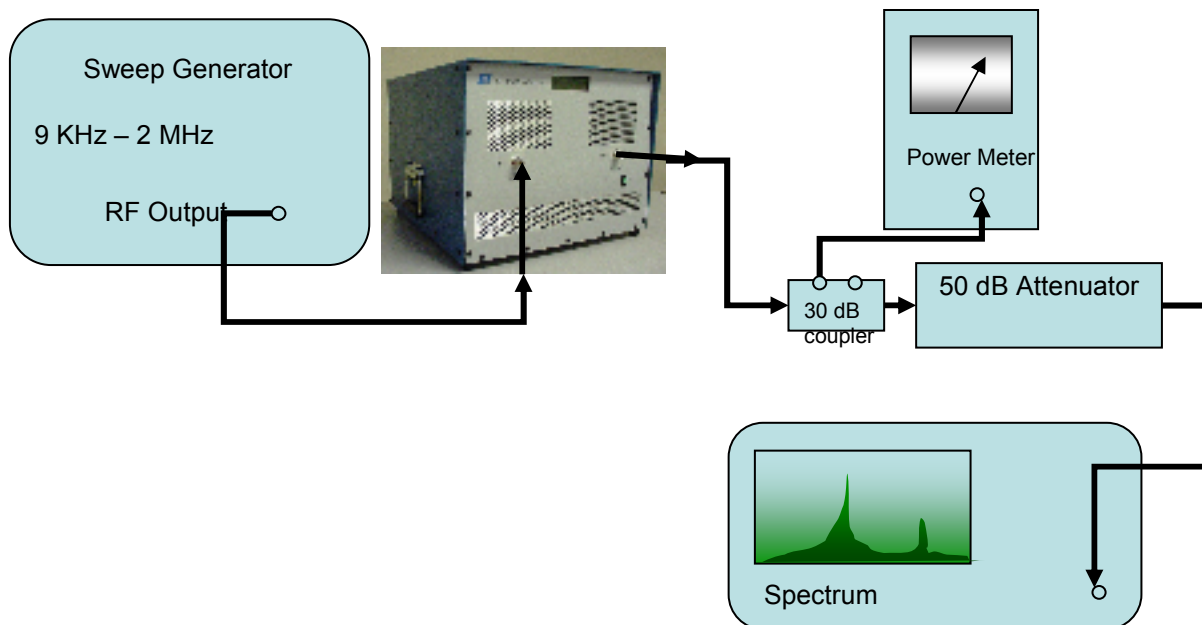

Figure 4-2.
- 2.) Connect the Equipment as shown in Figure 4-2, then proceed as follows: